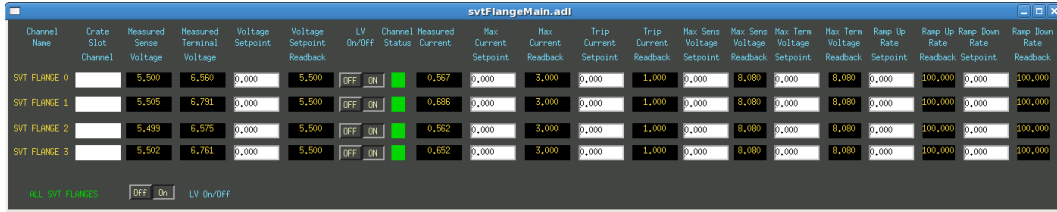

Figure 2.9: Flange power GUI.
- **Flange power GUI** in Fig. 2.9.